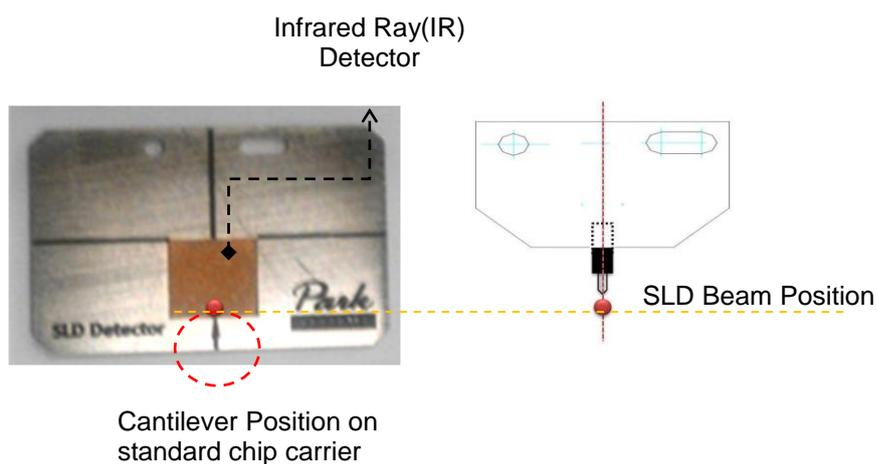

Figure 1. (Left) Beam position when using SLD detector Chip Carrier, (Right) Beam position when using Standard Chip Carrier
4. Move the SLD beam upward or downward while turning the Y beam alignment knob (large knob on the left side of head), since the SLD beam has been located on the cantilever's position in the X axis but with an offset in the Y axis, depending on the cantilever type (Figure 1).